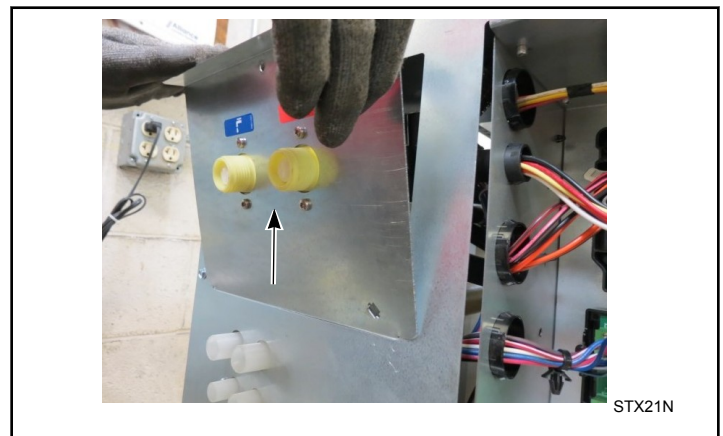

Figure 10
5. Lift bottom tab of valve panel out of rear panel opening. Refer to *Figure 10*.